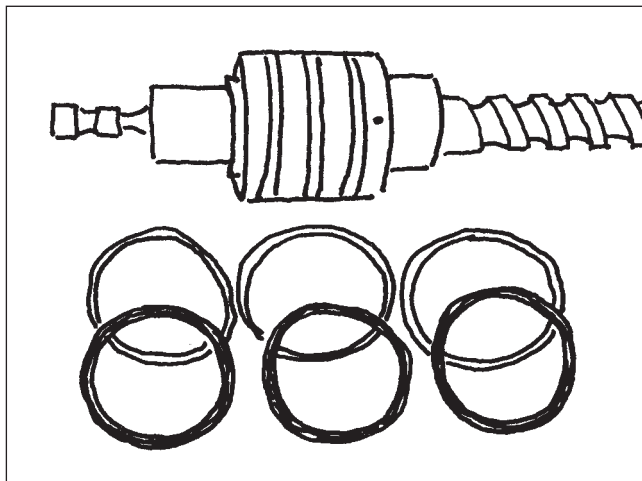

Figure 114
2. Inspect the rotary valve grooves to insure they are clean and free of nicks or burrs (Figure 114).